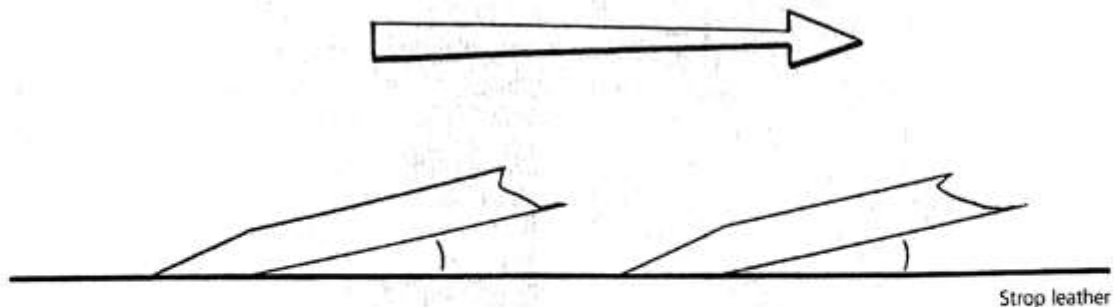

Fig 12.20 When stropping, maintain the same angle and always drag the edge to avoid cutting the leather
- ❶ Line up the benchstrop end-on, supporting the near edge with the fingers (of the left hand, for a right-handed person).
- ❷ The strop is *always* used with the blade being drawn *towards* the user, the edge dragging so as not to cut the leather.
- ❸ Hold the chisel around the shank with the right hand. The first two fingers extend along the metal, but keep them back from the cutting edge roughly the length of a finger joint.
- ❹ Place the bevel flat on the furthest part of the leather and, with firm pressure, draw the tool along the strop towards you (Fig 12.20). Try to maintain the angle and work on the *bevel* – not the edge, as that will take care of itself.
- ❺ At the end of this stroke *lift the chisel clear* and place the bevel flat on the strop at the far end again. Draw the blade towards you for a second stroke.
- ❻ This action is repeated a few times on one side of the chisel, then the blade is turned over for an equal number of strokes on the other side. You can strop the tool quite vigorously, in which case it makes a slapping sound on the strop as it is placed for each stroke.